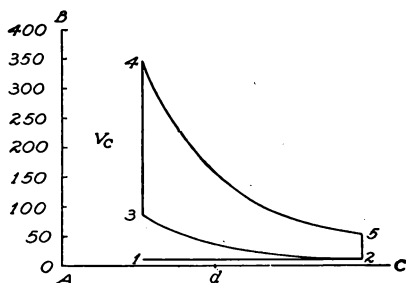
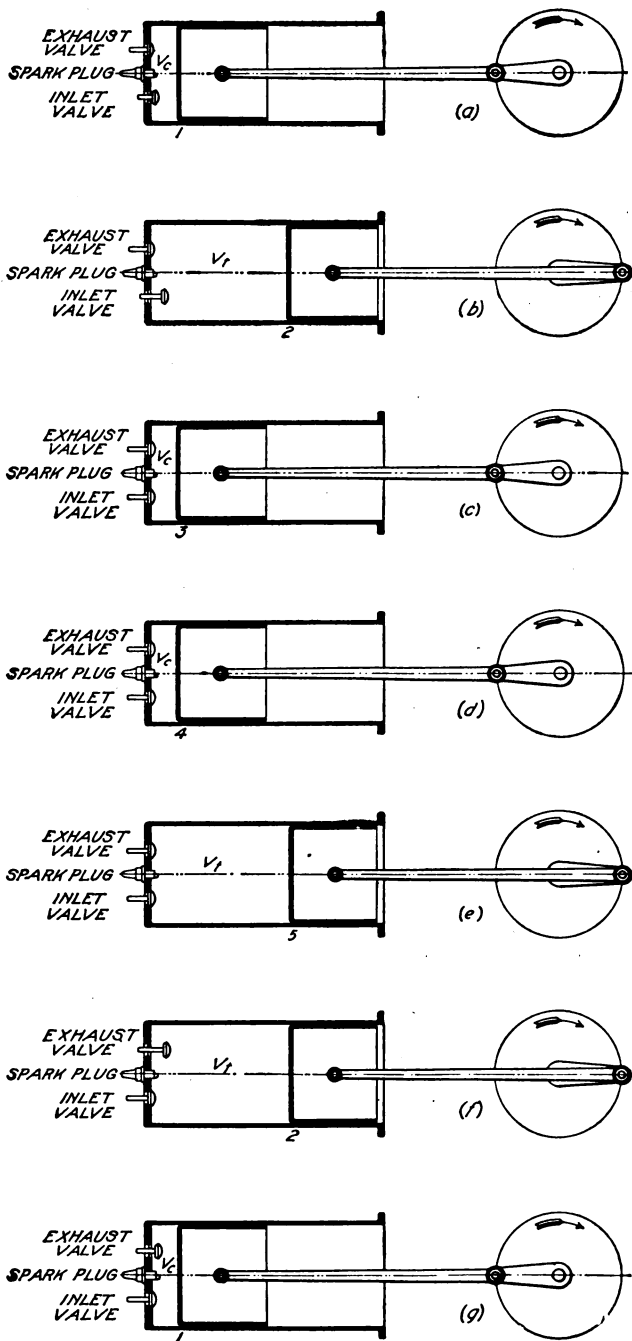
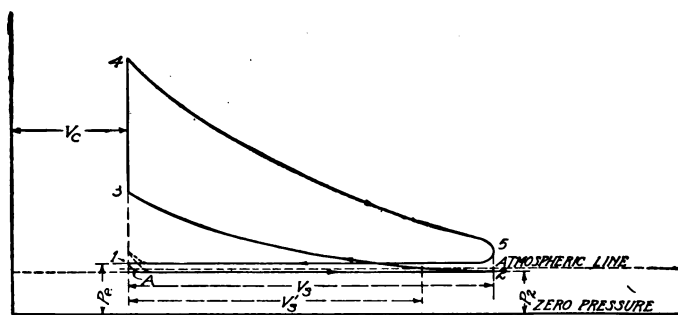

Fig. 58. Ideal Indicator Card of Otto Cycle.
Fig. 59. Diagrams of Various Steps in an Explosion-Motor Cycle
Fig. 60. Indicator Card of a Motor Following Actual Otto Cycle
**Analysis of Ideal Diagram.** Watt's work diagram may be profitably applied to the analysis of the ideal Otto cycle by means of the indicator diagram, Fig. 58. Vertical distances along the line  $AB$  represent
**Stroke One.** At the beginning of the cycle the piston is at the end of its path, point 1, and is about to begin its out stroke, Fig. 59(a). The clearance space  $V_c$  is full of products of combustion. The
pressure is atmospheric pressure (about 14.7 pounds per square inch) because the cylinder has been in communication with the atmosphere through the exhaust valve which has just closed. The conditions existing in the cylinder at this instant are represented in the diagram, Fig. 58, by the point 1, which is at a horizontal distance from the vertical axis, representing the clearance volume  $V_c$ , also Fig. 59 (a) and at a vertical distance above the horizontal axis representing the atmospheric pressure. As the piston makes its outward stroke, the admission valve opens, admitting the charge to the cylinder throughout the stroke at atmospheric pressure. On the diagram the admission of the charge is represented by the line 1-2, its length representing the volume of the charge taken in, or the distance through which the piston moves. The point 2 represents the condition at the end of the first stroke, the volume being  $V_u$ , Fig. 59 (b).
*Stroke Two.* The admission valve now closes and the piston makes its return stroke and, since all the valves are closed, the charge can not escape and is crowded into a smaller and smaller volume at increasing pressure until the piston reaches the end of its stroke, at which time the whole charge is compressed into the clearance space. This process is represented by the line 2-3, which shows the rise in pressure resulting from the compression. At point 3 the volume is again  $V_c$ , Fig. 59 (c). A compression of this kind causes an increase not only in the pressure but also in the temperature of the gas, a fact often noted in the working of an ordinary bicycle pump. If it is assumed that during this compression the gas retains all of the heat formed and receives none from the outside, it is called an *adiabatic* compression. The relation between the pressure of air and its volume when subject to adiabatic compression is:
degrees Fahrenheit. The rise of pressure during the explosion is shown on the diagram by the line 3-4, the volume of the gas being constant at  $V_c$ , Fig. 59 (d).
*Stroke Three.* The hot products of combustion at point 4 are at a high pressure, consequently they now force the piston out and, expanding behind it, fall in pressure. This expansion is assumed to occur without communication of heat to or from the gas and is, therefore, an adiabatic expansion. It is consequently accompanied by a fall in the temperature of the gas, the expansion curve being shown in Fig. 58 as 4-5. This curve is similar to the compression curve 2-3 and has a similar equation.
*Stroke Four.* At the point 5 the piston is at the end of its stroke and no more expansion is possible, the volume being again  $V_t$ , Fig. 59 (e). The exhaust valve now opens and the pressure in the cylinder falls immediately to atmospheric pressure, as shown by the line 5-2 in the diagram, the volume remaining  $V_t$ , Fig. 59 (f). Throughout the last return stroke 2-1, the exhaust valve remains open, so that the pressure in the cylinder remains atmospheric, and at point 1, the end of the cycle, the volume is again  $V_c$ , Fig. 59 (g).
**Work Done by Motor.** The work done by any heat engine is equal to the difference between the heat energy that goes to the engine and that which is rejected by the engine, for whatever heat disappears can not have been destroyed and must have been converted into work. In the Otto cycle, the heat taken in is the total heat which it is possible to liberate at the explosion of each charge. In the ideal cycle no heat is rejected from the engine except during the process represented by the line 5-2 in Fig. 58; because, when the charge gets back to the condition at 2, it has returned to its original volume and pressure and consequently to its original temperature.
In order to analyze the differences between the ideal and the actual or practical cycles, let us compare Fig. 58 with Figs. 60 and 61, which represent, respectively, the cards of a motor which is supposed to follow the actual Otto cycle, and of a four-cycle gasoline engine as found in practice.
**Suction Stroke.** At the end of the exhaust stroke, the clearance volume  $V_c$ , Fig. 60, is filled with burned gases at a pressure  $P_c$  and temperature  $T_c$ . Nothing definite is known of the temperature  $T_c$ , except that it varies from 1,200 to 1,800 degrees Fahrenheit, while  $P_c$  ranges from 16 to 18 pounds absolute pressure per square inch. At the beginning of the suction stroke the pressure decreases
*Suction Pressure.* Another factor affecting the efficiency is the suction pressure  $P_2$ , Fig. 60. Owing to friction losses in the admission valves and pipes through which the fuel enters, the admission pressure is less than atmospheric pressure,  $12\frac{1}{2}$  pounds per square inch absolute being the average value for  $P_2$  in this type of motor. Owing to this reduction in pressure, the charge, if it were brought to atmospheric pressure, would occupy a volume  $V'_s$  instead of  $V_s$ , Fig. 60. This reduction in the amount of the charge, of course, decreases the pressure developed at the end of the compression stroke and, therefore, reduces the heat developed by the explosion, which reduces the power developed within a given size of motor. Hence, the smaller the suction pressure, the less power we get, and the closer  $P_2$  is kept to atmospheric pressure the greater will be the possible power output. We thus see that modifications occur at each end of the suction line which tend to decrease the efficiency of the cycle. This effect produced by the reduction of  $P_2$  permits the motor to be governed by means of a throttle valve.  $P_2$  is increased or decreased as required by the use of a control valve whose suction responds to the load on the engine, thus controlling the charge volume and hence the engine capacity.
The maximum explosion pressure (see point 4, Fig. 60), even with proper ignition is never as high for the actual cycle as for the ideal cycle. The principal reason advanced for this is the loss of heat to the water jacket, or air, if air-cooled, this loss amounting to usually about 40 per cent of the total heat of combustion, *i. e.*, heat which results from the explosion of the charge. Some of the other
The movement of the burned gases out through the exhaust pipe is resisted by friction in the various parts. These gases are forced out against atmospheric pressure, hence the pressure inside the cylinder which expels them must be above atmospheric pressure. This pressure is maintained by the piston which follows up the retreating gases. The difference in pressure between that inside the cylinder and that outside, *i. e.*, the exhaust pressure and the atmospheric pressure, respectively, opposes the motion of the piston on the exhaust stroke and hence causes a loss. This loss is clearly shown in Fig. 60 by the fact that the exhaust line on the indicator card is above the atmospheric line, thus decreasing the area of the card which is proportional to the amount of work done.